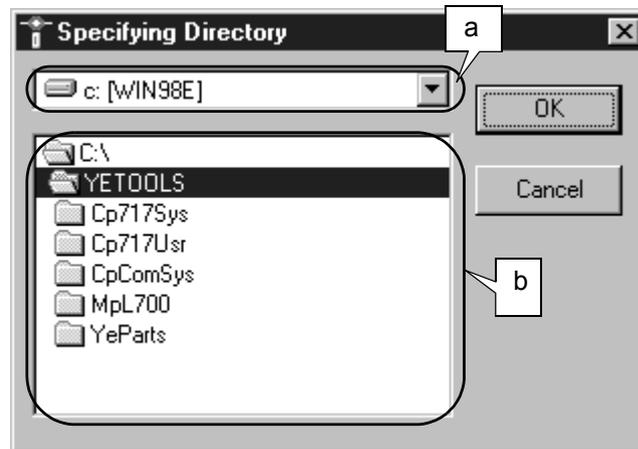

Fig. 3.4 Folder Specification Dialog Box
- Click the **reference** Button to display the Folder Specification Dialog Box (*Fig. 3.4*).